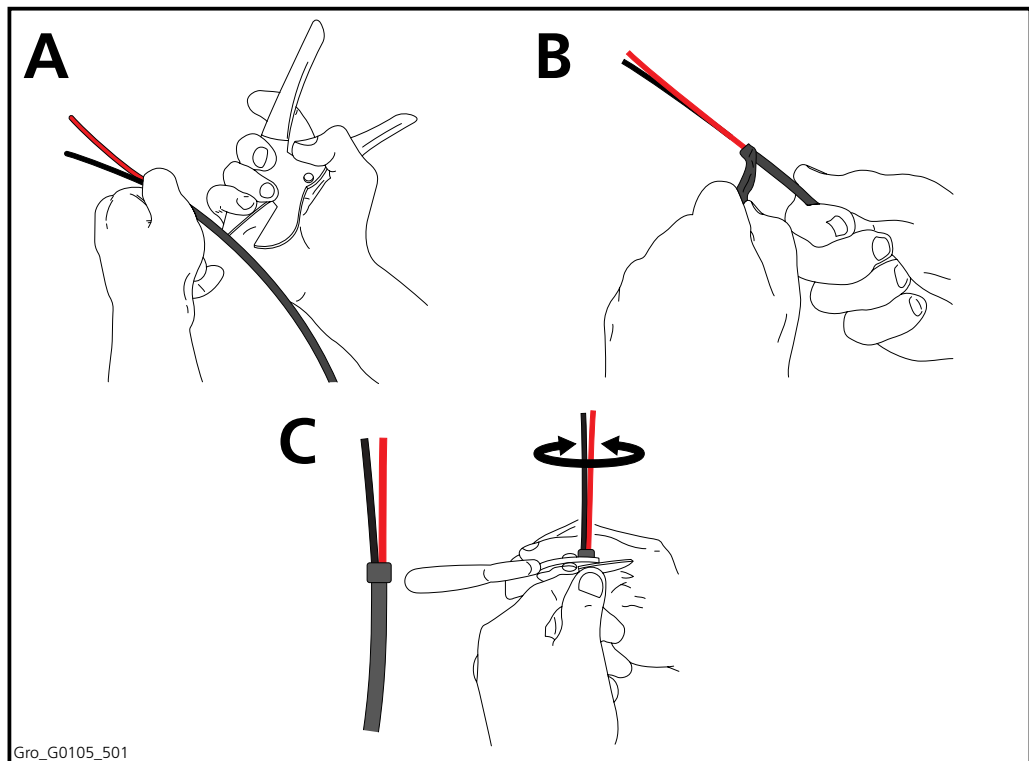

Figure 5.2 Removing the outer jacket
4. With composite lines (polyamide), roughly determine the desired length of the individual lines and strip the outer jacket along this length (Figure 5.2.A/ B). Make sure that you do not damage the individual lines in the jacket. The stripped part of the composite grease line must look as in (Figure 5.2.C).